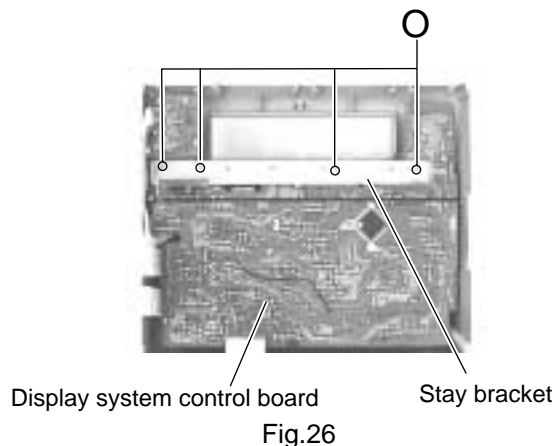

Fig.26
■ Removing the display system control board (See Fig.26 to 28)